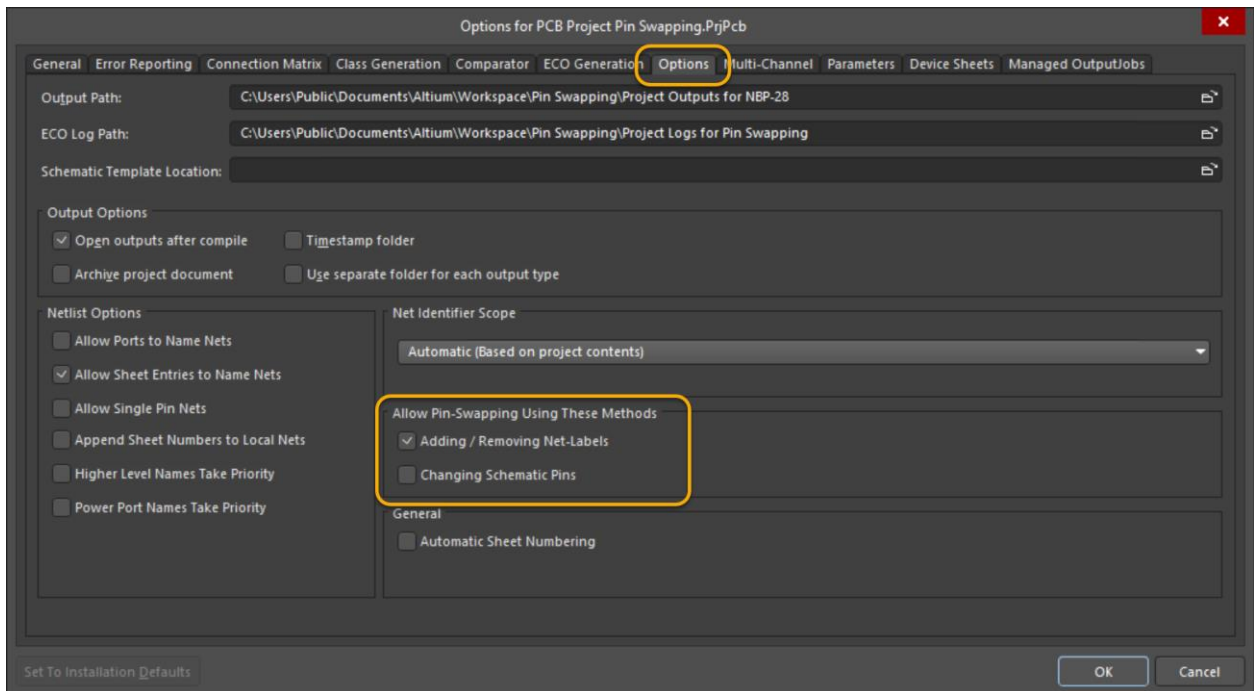

Figure 2. Project Options, Options Tab
- a) In the *Options* tab: locate the *Allow Pin Swapping Using These Methods* section and make sure only **Adding/Removing Net-Labels** is checked as shown in Figure 2. **Changing Schematic Pins** should not be selected.